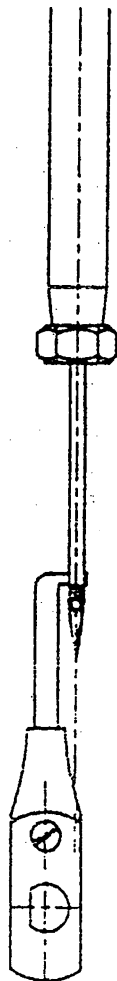

Fig.10
C) Adjustment / Side clearance between the looper & needle. (Fig. 10 & 11)
- a) Turn the gear (3001624) to the position of which the top end of looper just exceed the side surface of needle and check whether the distance between the top end of looper and needle is about 0.045 mm. (see also Fig. 10)